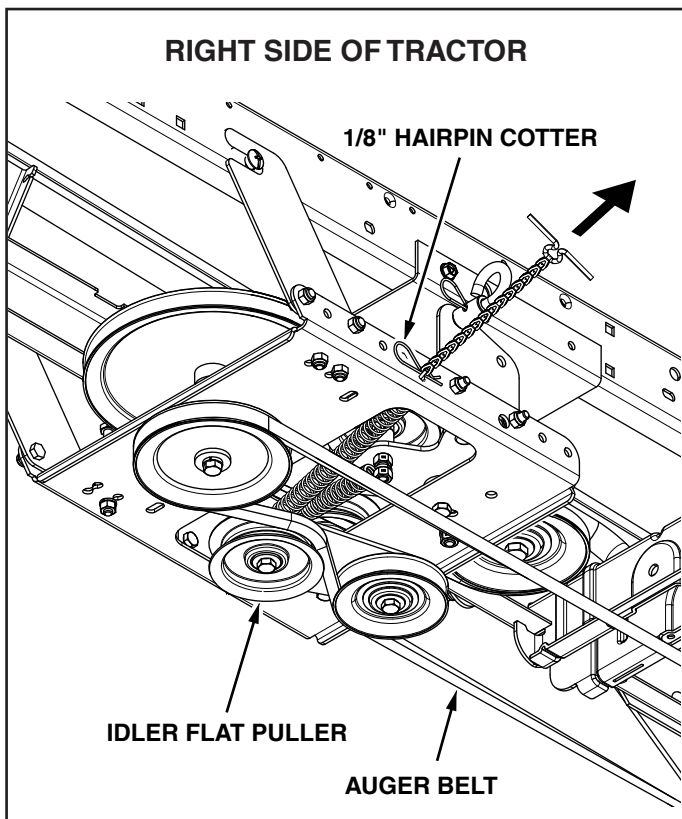

FIGURE 31 VIEWED FROM UNDERNEATH
NOTE; To prevent the chain from dragging on the ground, loop the end of the chain through the pivot lock pin. Refer to figure 31 on page 16.
STEP 33: (SEE FIGURE 31)